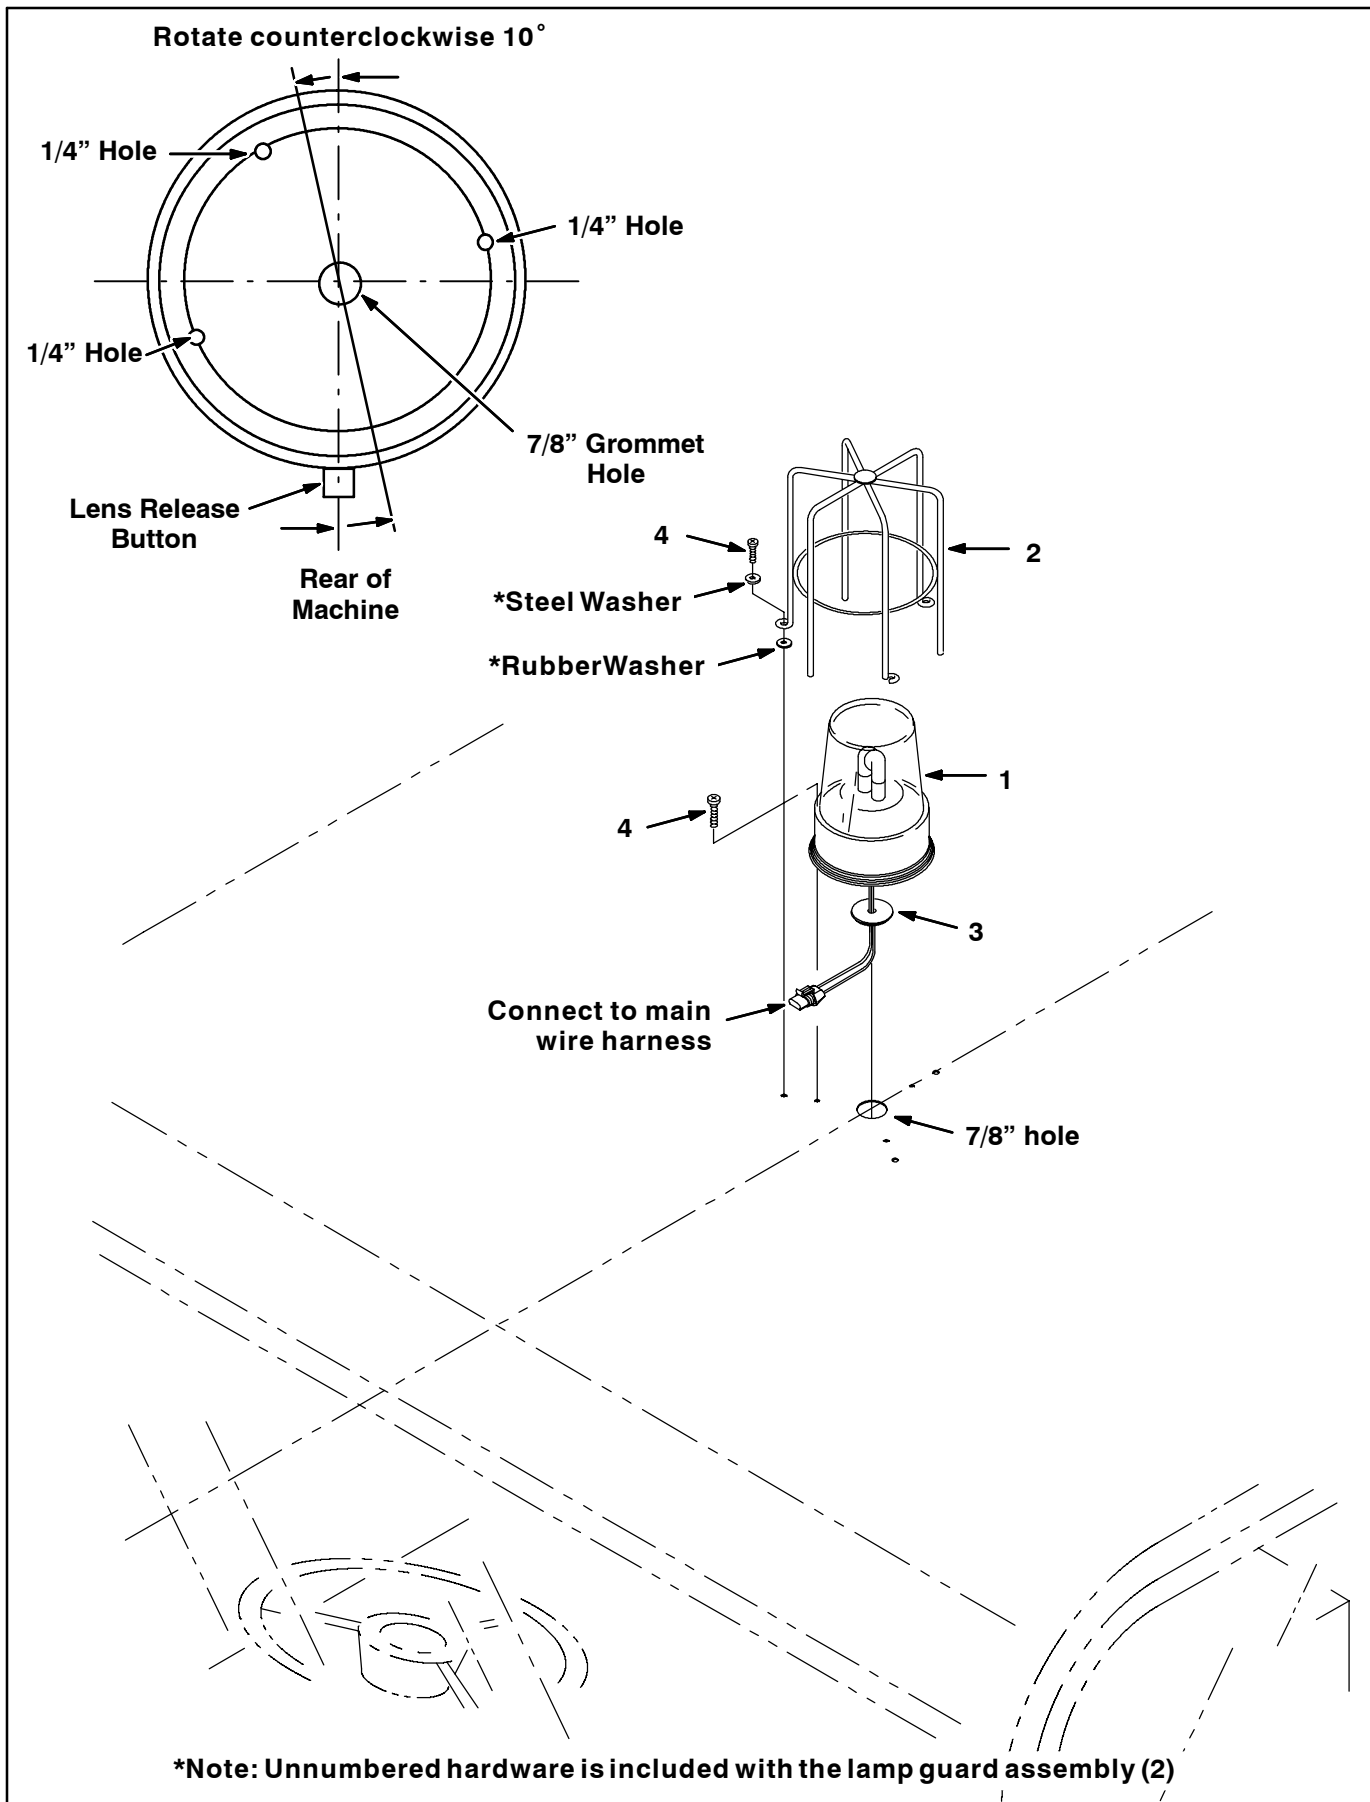

FIG. 1-Cab Strobe Light Installation
3. Remove the lenses from the bases of both lamp assemblies (1).
4. Use a 1/4" drill bit to widen the mounting holes in the bottom of each lamp assembly base (1).
5. Center the base of one lamp assembly (1) over the 7/8" hole and orient the lens release button straight to rear of the machine. Refer to Fig. 1.
6. Rotate the base of the lamp assembly (1) approximately 10° counterclockwise and mark and drill three 13/64" mounting holes into the cab. Refer to Fig. 1.
7. Insert a grommet (3) into the 7/8" hole. Refer to Fig. 1.
10. Use three hex screws (4) to mount the base of the lamp assembly (1) to the cab. Refer to Fig. 1.
11. Reinstall the lens onto base of the lamp assembly (1). Refer to Fig. 1.
12. Position the light guard (2) over the lamp assembly (1) and use light guard as a template to mark and drill three 13/64" holes into the cab. Refer to Fig. 1.
13. Use three hex screws (4) and three steel washers and three rubber washers (included with the light guard assembly) to mount the light guard (2) to the cab. Refer to Fig. 1.